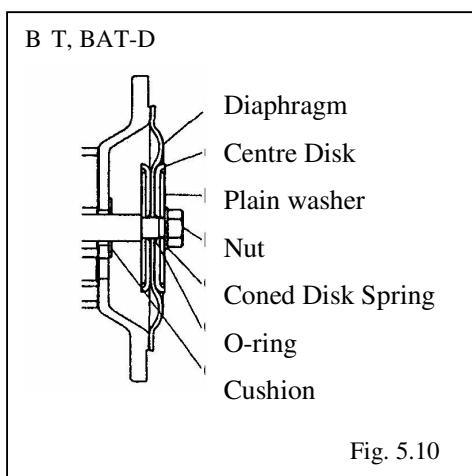

Fig. 5.10
- Keep the convex side to the outside (Fig. 5.10).
- Install the O-ring (Fig. 5.10).